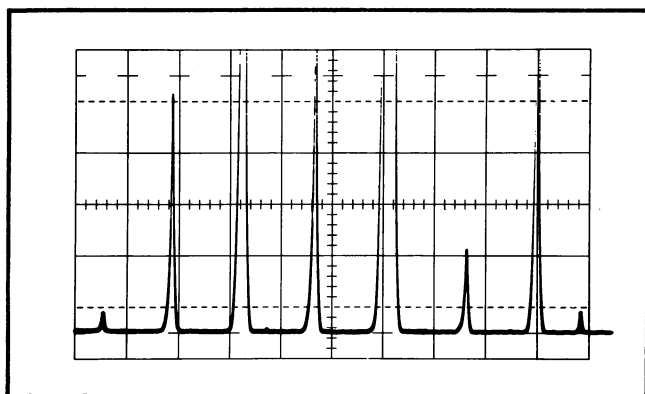

Fig. 2-1. Picket Fence display of 1 mc markers.
14. Set the PICKET FENCE switch to 1 MC. This should cause the appearance of several smaller markers on each side of the main marker signal. These markers are 1 megacycle apart and are useful in determining the frequency at various points on the display or in determining the frequency width of the display (see Fig. 2-1).
The Picket Fence provides for greater accuracy when making frequency measurements. The Picket Fence markers are spaced at equal frequency intervals on the display (see Figs. 2-1 and 2-2). The frequency spacing of the Picket